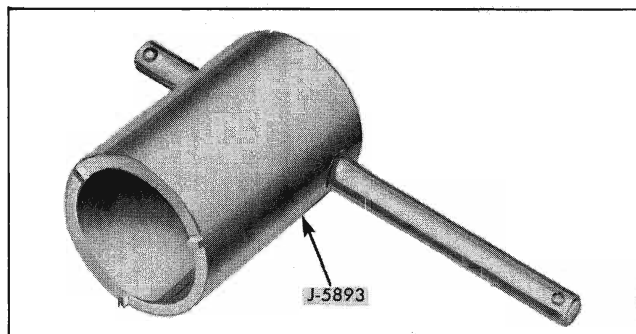

Fig. 11-73 Ignition Switch Ferrule Spanner
2. Remove ignition switch ferrule by unscrewing with special spanner J-5893 (Fig. 11-73).